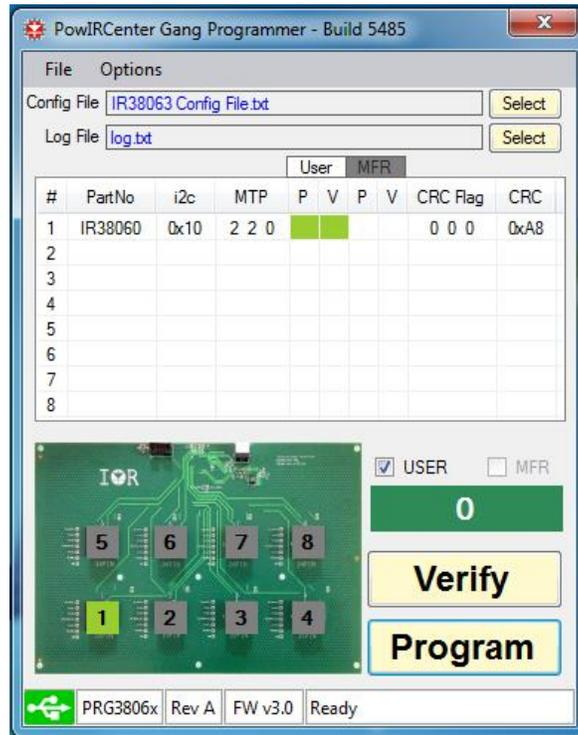

Figure 1: Programming is successful
8. If the programming is successful, the GUI should look like as shown below in **Figure 1**.